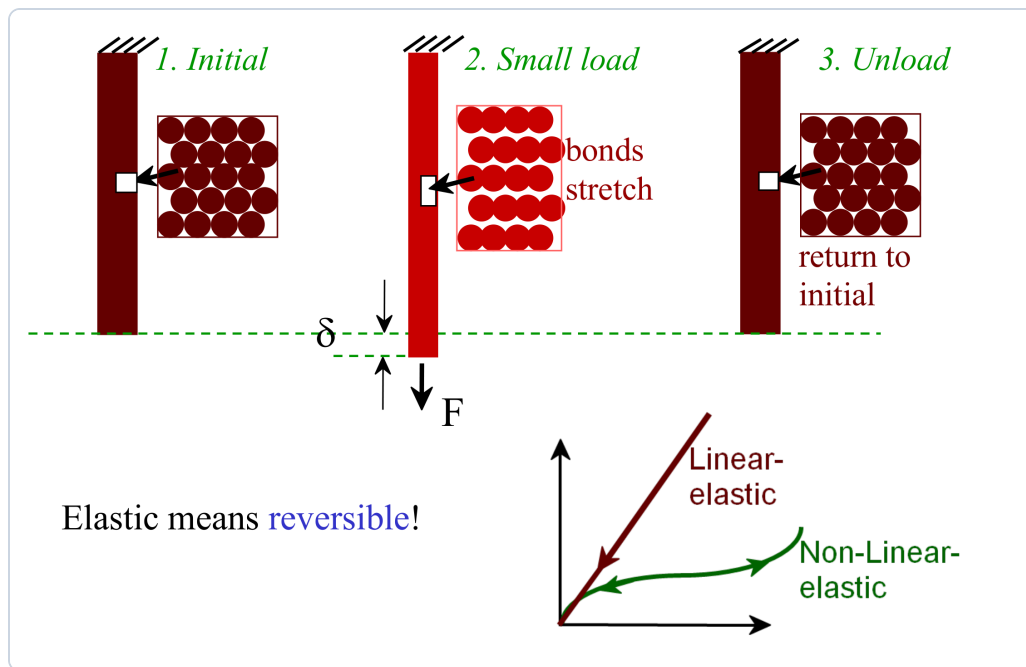

Figure 5: Elastic deformation at the atomic scale, from Lecture 10, slide 9.
Reading Figure 5. (1) Initially the atoms sit at their equilibrium spacing. (2) A small load F stretches the **bonds**, and the bar lengthens by δ . (3) When the load is removed the bonds pull the atoms back and the bar **returns to its initial length**. No atom changes neighbours, so nothing is permanent. The small plot shows that elastic does not have to mean straight: most metals are **linear-elastic** (load and unload along the same straight line), while some materials are **non-linear elastic** (curved, but still fully recovered).